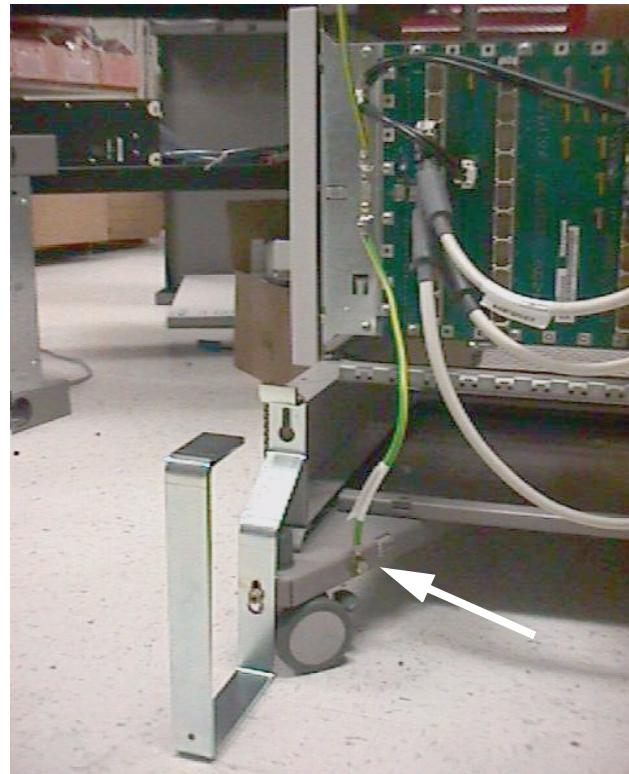

Figure 6 Grounding the HiPath 4000
1. Attach one end of the ground wire to the back of the cabinet as shown in Figure 6.